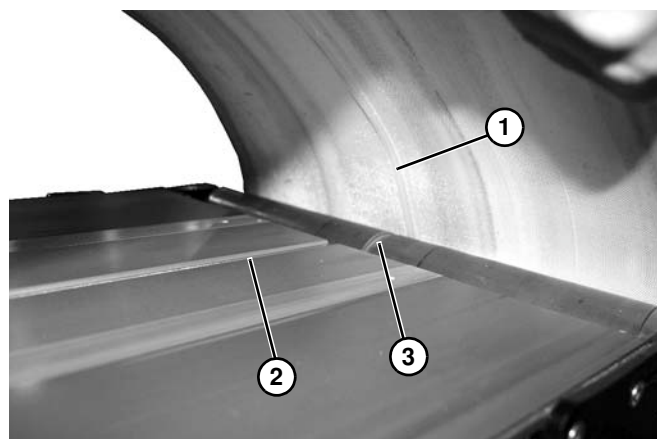

Figure 55
Verify V-Guide on belt (**Figure 55, item 1**), is aligned with V-Guide in frame (**Figure 55, item 2**) and tails (**Figure 55, item 3**).